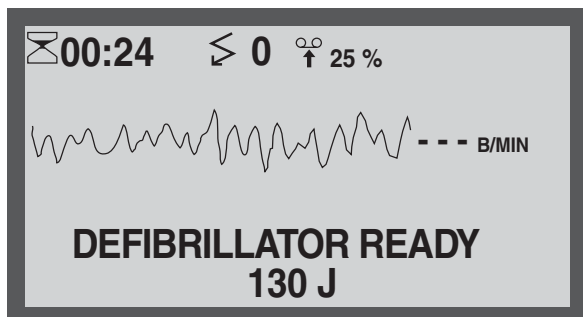

Figure 6-17. Defibrillator ready
- the message "Defibrillator ready" and the stored energy will be displayed (Figure 6-17),